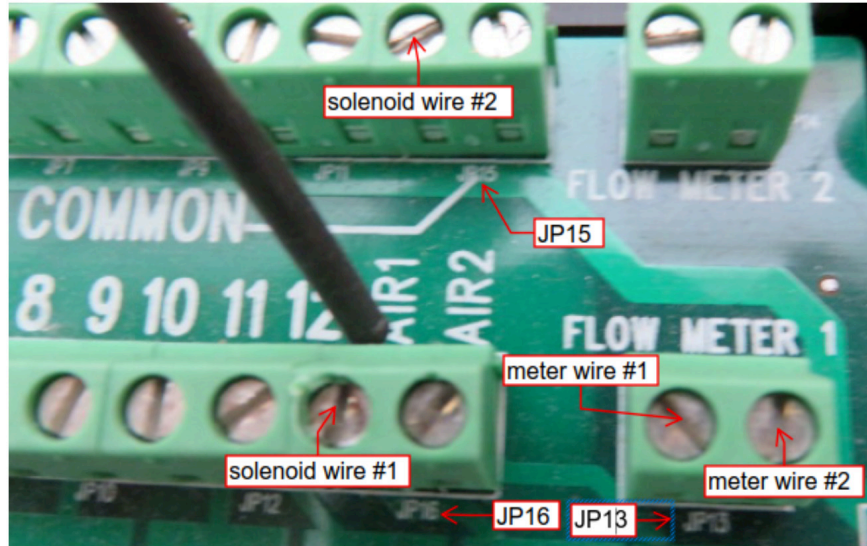

Figure 3, Air Solenoid and Flow Meter Wiring
- o "FLOW METER" Terminals (Figure 3)
NOTE: Do not put one (1) wire into JP13 and the other into JP14. See above and Figure 3.
- Twelve (12) "Valve Common" and twelve (12) corresponding 24VAC terminals (24 total)
- o "AIR" Terminals (Figure 3)